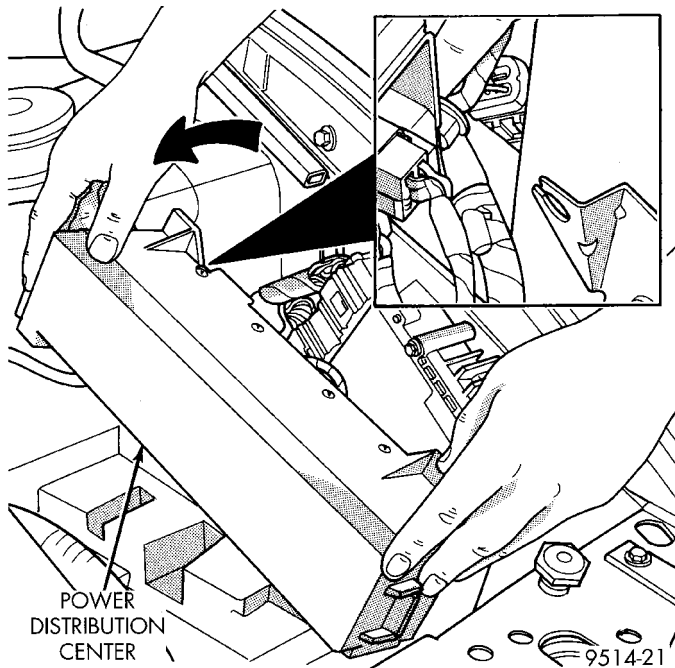

Fig. 34 PDC Rear Bracket
- (5) Remove battery from vehicle.
- (6) Rotate PDC toward center of vehicle to remove from rear bracket (Fig. 34).
- (7) Pull PDC rearward to remove from front bracket. Lay PDC aside to allow access to Powertrain Control Module (PCM).